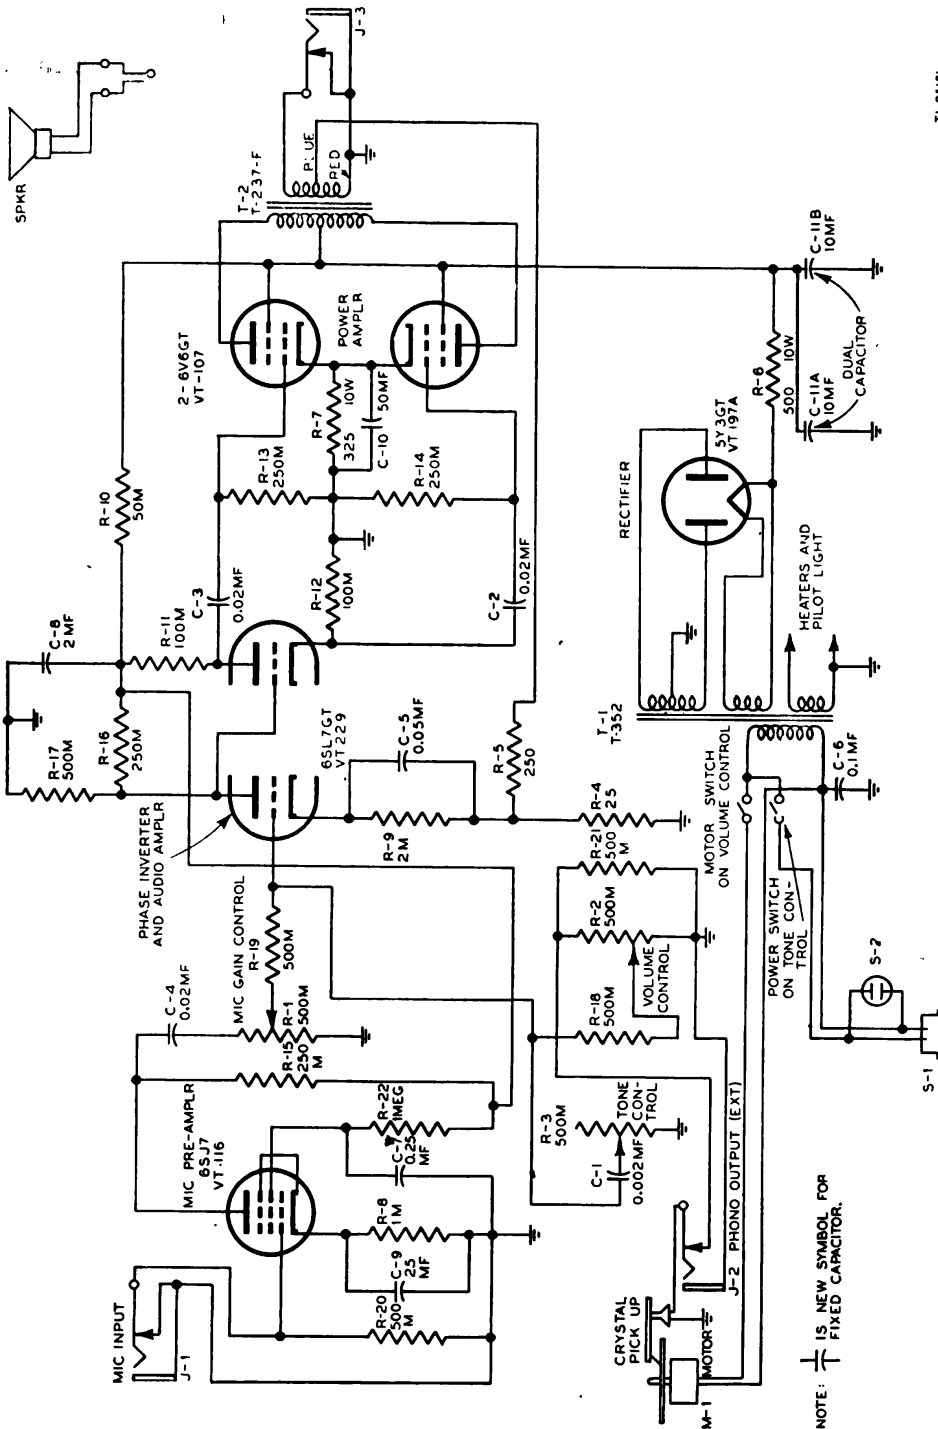

Figure 14. Schematic diagram for reproducer.
The first audio stage, using Tube JAN-6SL7GT (VT-229), a twin-grid amplifier tube, receives the signal voltage from the pre-amplifier or the pick-up arm, or both, and operates as an amplifier and phase inverter to drive the push-pull output stage. The signal fed to the grid (pin 1)* of the tube (VT-229) is amplified in the first triode unit of the tube (fig. 14). The grid** (pin 4) of the second triode unit is connected to the plate (pin 4) of the first triode unit (fig. 14). Two signal voltages, equal in magnitude, but 180° opposite in phase, are developed in the cathode-plate circuit of the second triode unit across resistors R-12 and R-11 (fig. 14). The signal voltage appearing in the plate circuit is 180° out of phase with the grid voltage, while the signal voltage in the cathode circuit rises and falls with the grid voltage, thus being in phase with the grid voltage. The resulting voltages, equal in magnitude, but opposite in phase, are fed through capacitors C-2 and C-3 to the grids (pin 5 of each tube) of the two Tubes JAN-6V6GT (VT-107) in the push-pull output stage. The signal is given final amplification in this stage and fed to the loudspeaker through transformer T-2 and jack J-3 (fig. 14). A portion of the signal is fed from the center tap of transformer T-2 back to the cathode (pin 3) of the first triode unit of Tube JAN-6SL7GT (VT-229) through resistor R-5. The use of this type of inverse feedback circuit greatly reduces the distortion, thus improving the quality of reproduction. Tone control is obtained by using a potentiometer R-3 (TONE CONTROL) connected in series with a capacitor C-1, and connected between the grid (pin 1) of the first audio stage and ground (fig. 14). The higher frequencies can be bypassed to ground and the lower frequencies emphasized by varying the setting of the potentiometer R-3. The required a-c and d-c voltages are supplied by rectifier Tube JAN-5Y3GT (VT-197-A), power transformer T-1, and a filter system comprised of two 10-mf capacitors (C-11A and C-11B) and resistor R-6 (fig. 14).
- (2) Complete schematic diagram (fig. 14).